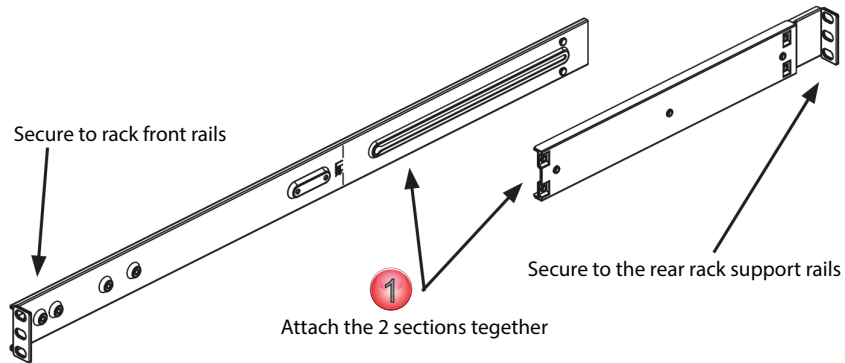

Figure 4-3: Install Rail Sections
1. Attach the longer section of the outer rail to the outside of the shorter section of the outer rail, Figure 4-3. You must align the pins with the slides. Both ends of the outer rail must face the same direction in order to be secured to the rack.